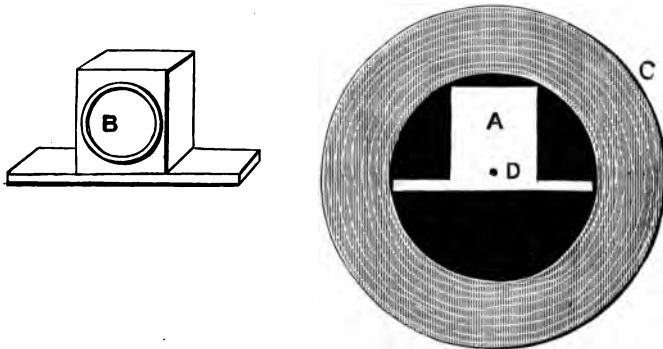

FIG. 84.—STEAM BLOCK : ORDINARY FORM AND MOUNTED IN CHUCK.
It is quite a mistake to suppose that only circular objects can be satisfactorily worked in a lathe, and it is often advantageous to turn those of cubical form, as it secures the relative positions of the several planes. A set of dice, such as are used for playing backgammon, can easily be turned and made more quickly in this way, if a proper chuck is used, than by filing. A steam block is generally shaped like Fig. 84, p. 185 (B), which can be mounted in an ordinary boxwood chuck, as shown at C, when the centre of rotation is at A, and the piece is fixed by its corners so as to be easily faced up. But here the centre